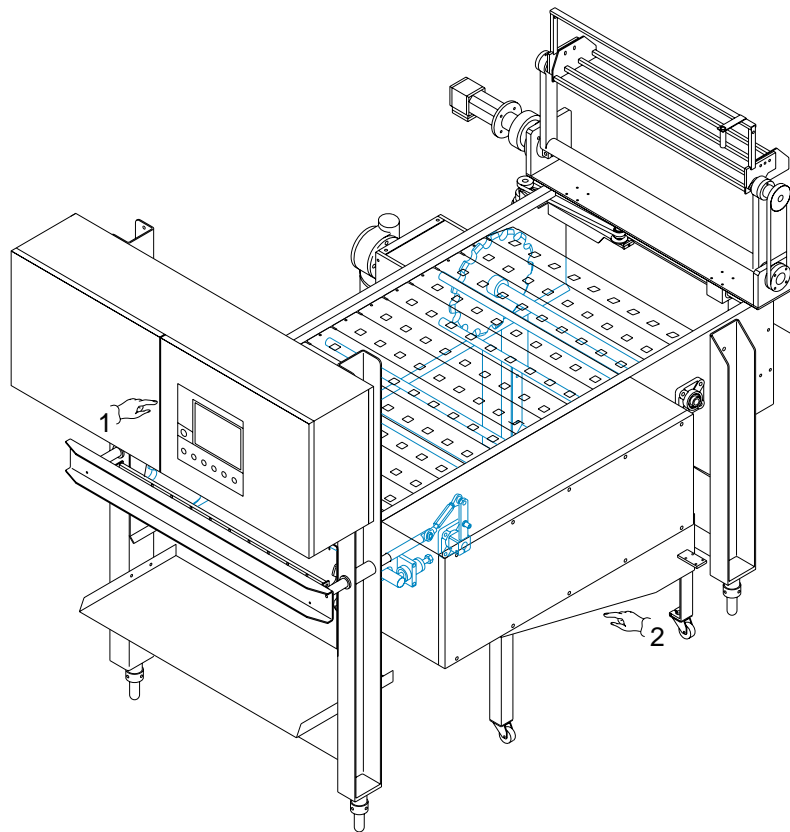

Fig. 6.1
- e. Check that the emergency push buttons (*Pos. 7/8, Fig. 6.1*) are released (*Pos. 6, Fig. 6.1*).
- f. Check that the chocolate tank (*Pos. 3, Fig. 6.1*) has been filled to the correct level and that the chocolate is at the right temperature (around 34° to 37° C).